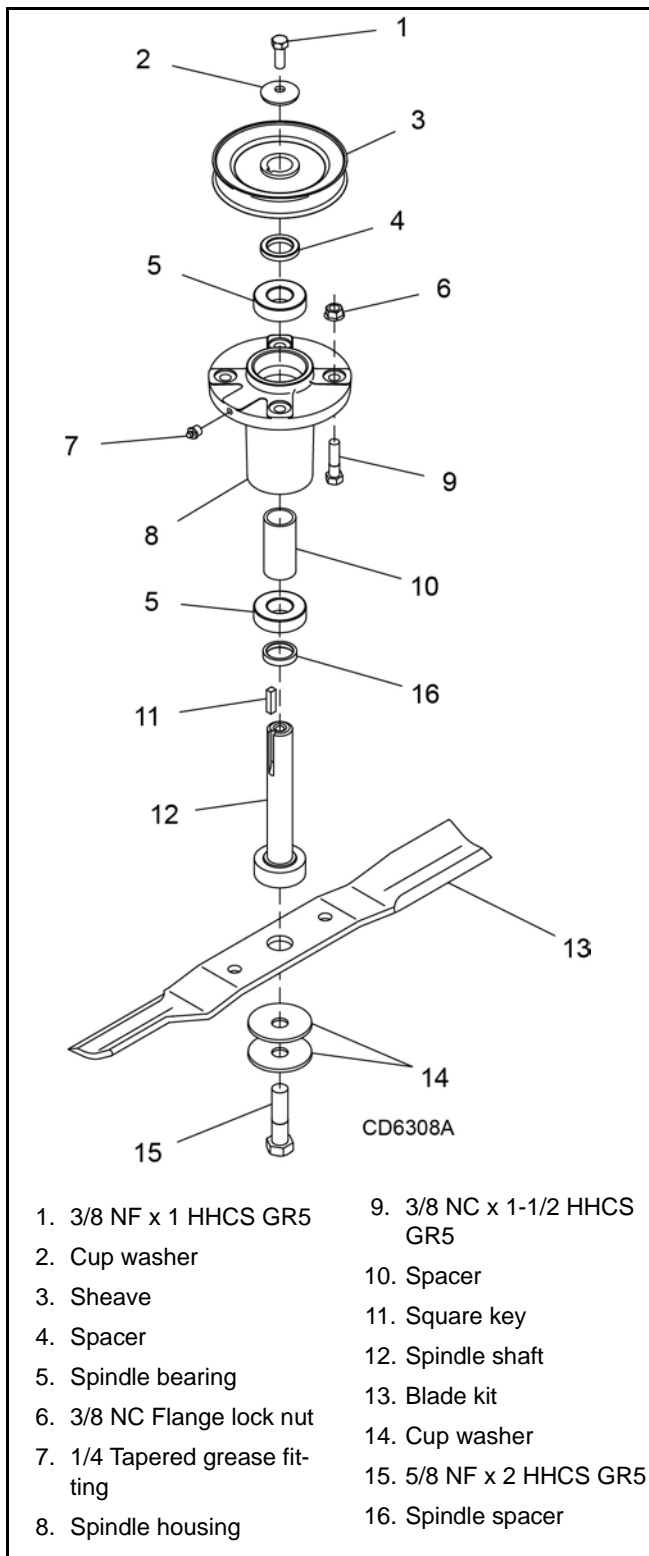

Figure 13. Blade Spindle Assembly
4. Remove nuts (6) and bolts (9) that secure spindle to mower. (See Figure 13.)